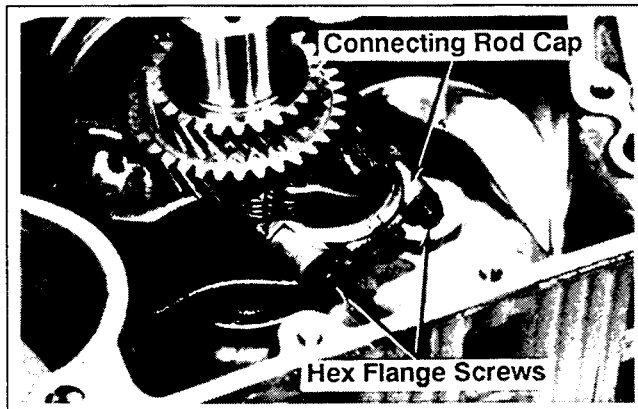

Figure 9-41. Removing Connecting Rod.
- Remove the two hex flange screws and connecting rod cap. See Figure 9-41.